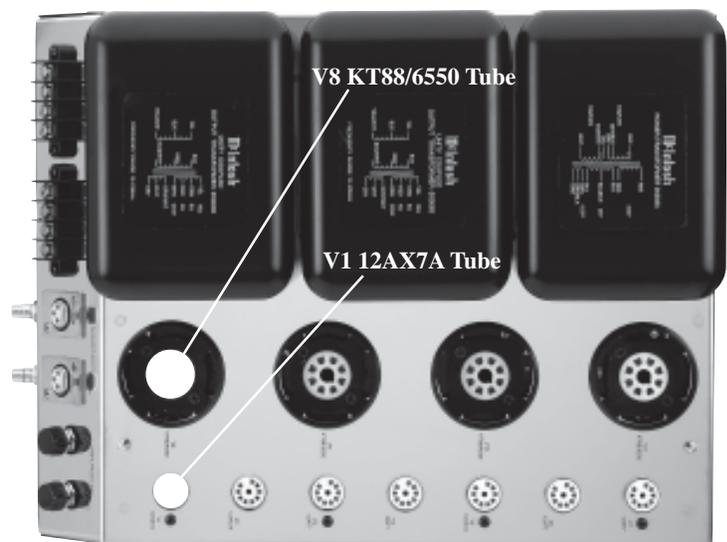

Figure 4
The MC275 Chassis has nomenclature screened on it to specify both the circuit location and Tube Type for each channel. Refer to figure 4.
2. On the top left side of the amplifier, locate the Tube Socket that has the nomenclature V1 12AX7A next to it on the chassis. Refer to figure 4 and 5.
Insert the spade lug connector or prepared section of the cable end under the terminal strip screw and tighten the screw until the cable is firmly clamped into the terminal strip so the wires cannot slip out. Refer to figures 4, 5 & 6.
so the wires cannot slip out. Refer to figures 4, 5 & 6.